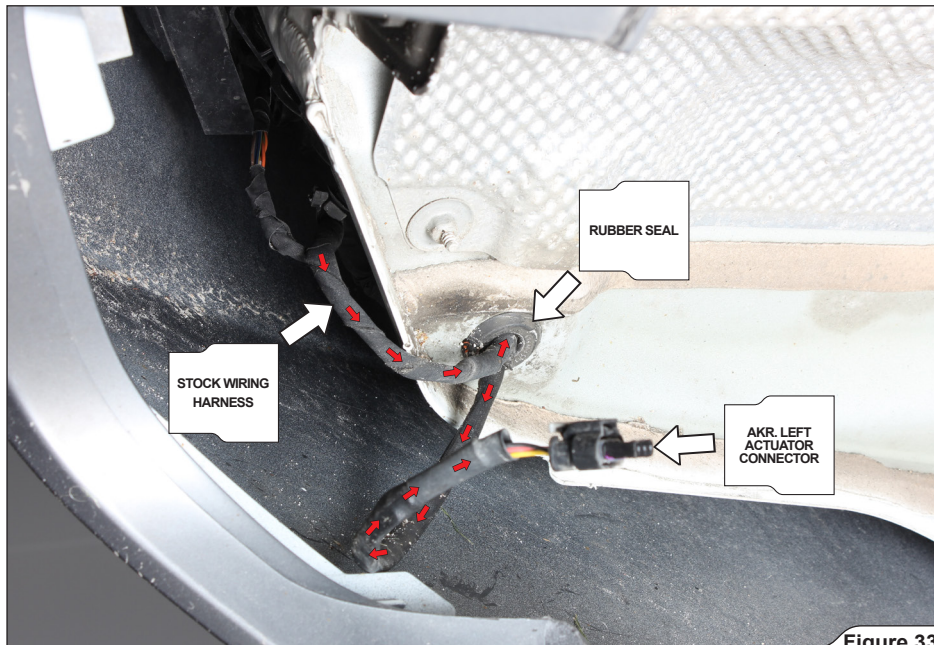

Figure 33
4. Remove the marked rubber seals and cut them half way through; retract the stock exhaust valve's wiring into the trunk through rubber seals holes on both sides of the vehicle, connect the stock connectors to the Akrapovič wiring harness connectors; protrude the Akrapovič wiring harnesses through the same rubber seal holes and distribute and secure the wiring harness (use tie wraps from Akrapovič installation kit), as shown to the left and right side of the trunk (Figure 33, 34).